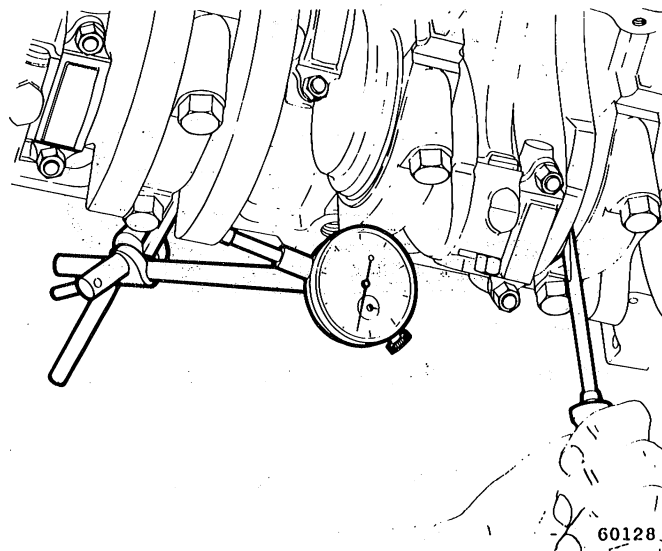

Fig. 1B-146 Crankshaft End Play Measurement
(1) Attach dial indicator to crankcase adjacent to No. 3 main bearing.
(2) Set dial indicator stem on face of adjacent counterweight (fig. 1B-146).
(3) Pry crankshaft fore and aft.
(4) Note dial indicator. End play is difference between high and low measurements. Refer to Specifications